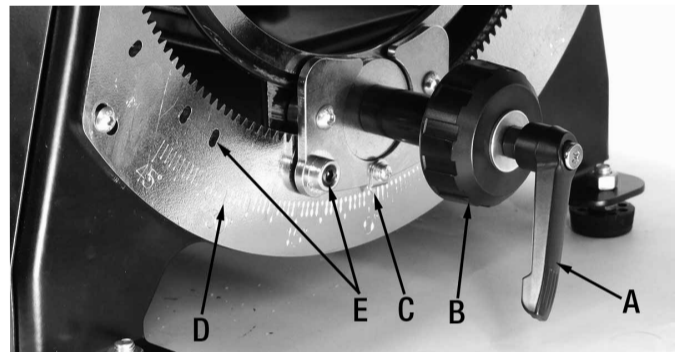

FIGURE 8
The head of the Scroll Saw can be tilted to the right or left to allow for angle or bevel cuts. The table remains flat and stationary so that cuts can be made easily and comfortably. The head tilt controls are located at the front of the Scroll saw, underneath the table, as shown in Fig.8.
- 1) Loosen the blade tilt lock handle (A) Fig.8 by turning it counterclockwise.
- 2) Turn the large knob (B) Fig.8 clockwise or counter-clockwise until the blade is set at the desired cutting angle.
- 3) Use the angle pointer (C) Fig.8 and the degree markings (D) to assist in setting the desired angle.
- 4) Turn the blade tilt lock handle (A) clockwise to retighten and secure the Scroll Saw head.
NOTE: When turning the large knob (B) Fig.8 as you set the head angle, a detent will engage the positive stops (E) and will snap into common cutting angles (0°, 22.5°, 30° and 45° left and right).
- 7) Once the adjustment is done, it may be needed to reposition the tilt angle pointer (C) Fig.8 so it aligns with the 0° mark on the angle scale. Loosen angle pointer screw, adjust position and retighten screw.